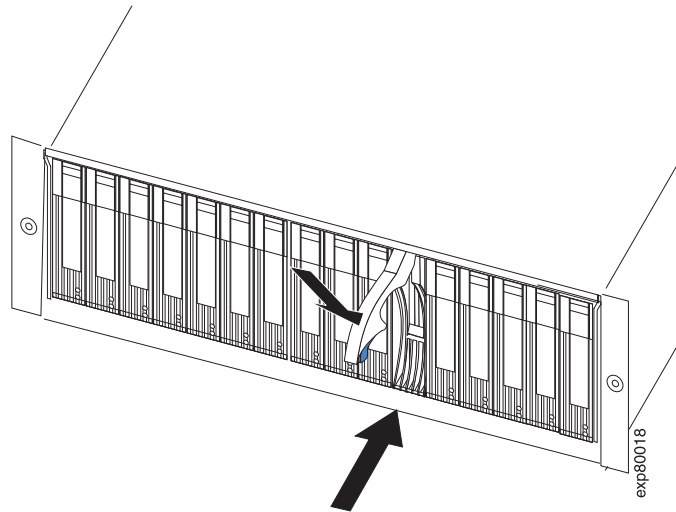

Figure 21. Replacing a hard disk drive
1. Lift up on the handle and gently push the drive CRU into the empty bay until the hinge of the tray handle latches beneath the storage expansion enclosure bezel, as show in Figure 21 on page 37.